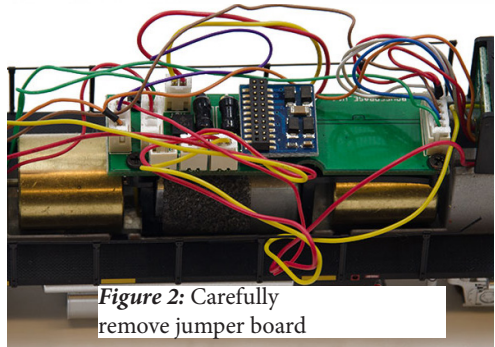

Figure 2: Carefully remove jumper board
2. Remove the jumper board from the locomotive's 21MTC pins. (**Figure 2**) The jumper board allows the loco to operate on a standard DC track or in analog mode on a DCC track. **If the loco also has a 8pin NMRA socket, any jumpers should also be removed.**
8. **Figure 2** shows a typical US locomotive where the original analog jumper board has its 21-pin black socket body on the “top” as shown. The decoder should exactly match this arrangement chosen by the manufacturer. The 21 pins on the host locomotive main board must first enter *through the holes* on the green decoder board, and not directly into the black socket. There is a single index pin skipped to indicate alignment. This 21MTC arrangement is not symmetric, and must be followed exactly, otherwise decoder damage not covered by warranty may occur.